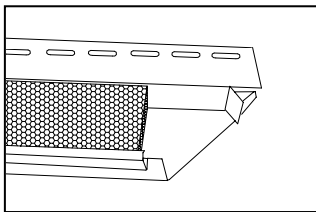

Figure 4
2. On the face of the lineal, measure back 3 1/2" on both ends. Cut the face of the lineal at 45° angles on both ends. Be sure to create water diversion tabs by cutting notches in the J pocket of the lineal on both ends. (Figure 4)